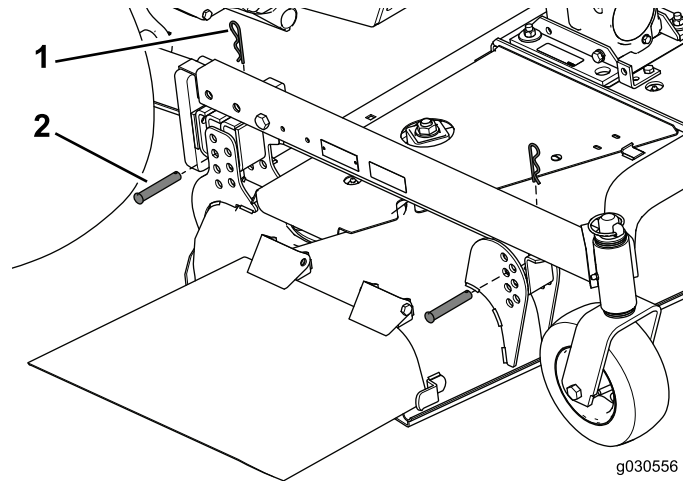

Figure 16
4. Use the 4 clevis pins and hairpins to secure the mower deck to the carrier frame at the desired height (Figure 16).